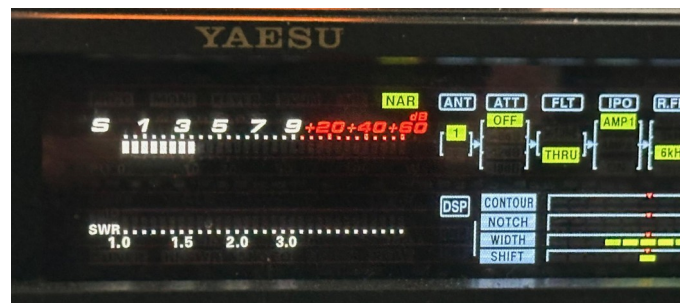
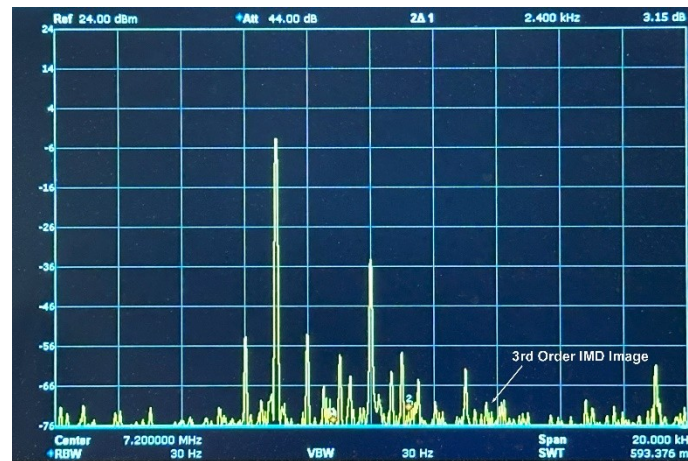

Figure 13 S-meter at Minimum
Figure 14 Narrow-band Spectrum After IQ Calibration
- Change the IQ Gain and repeat the process. The S meter minimum vs gain is shown in Figure 13. Figure 14 shows the narrow-band spectrum.